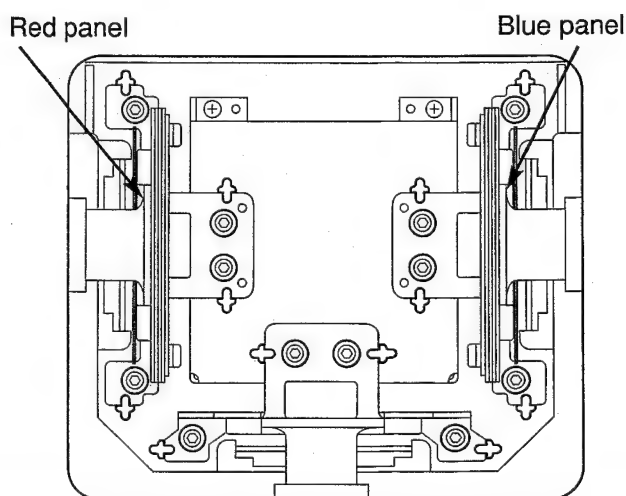

Fig.6
2. Adjustment screw "B" moves the image right and left (Fig.6).
3. Adjustment screw "C" moves the image up and down (Fig.6).